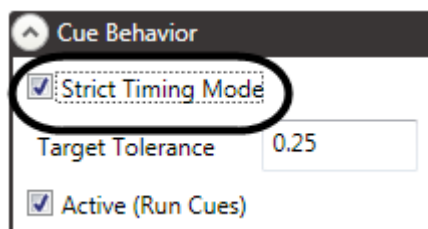

Figure 87
4. To use **Strict Timing Mode**, select the **Strict Timing Mode** field (Figure 87).